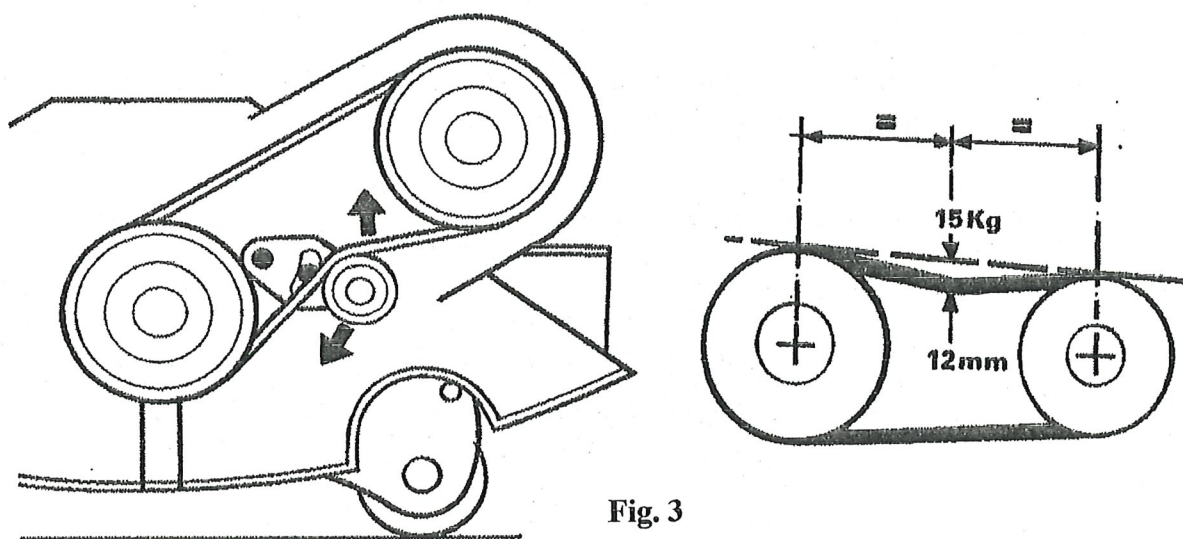

Fig. 3
2. Check the condition of drive belts, ensuring they are aligned and properly tensioned to avoid any unnecessary belt wear (Fig. 3).